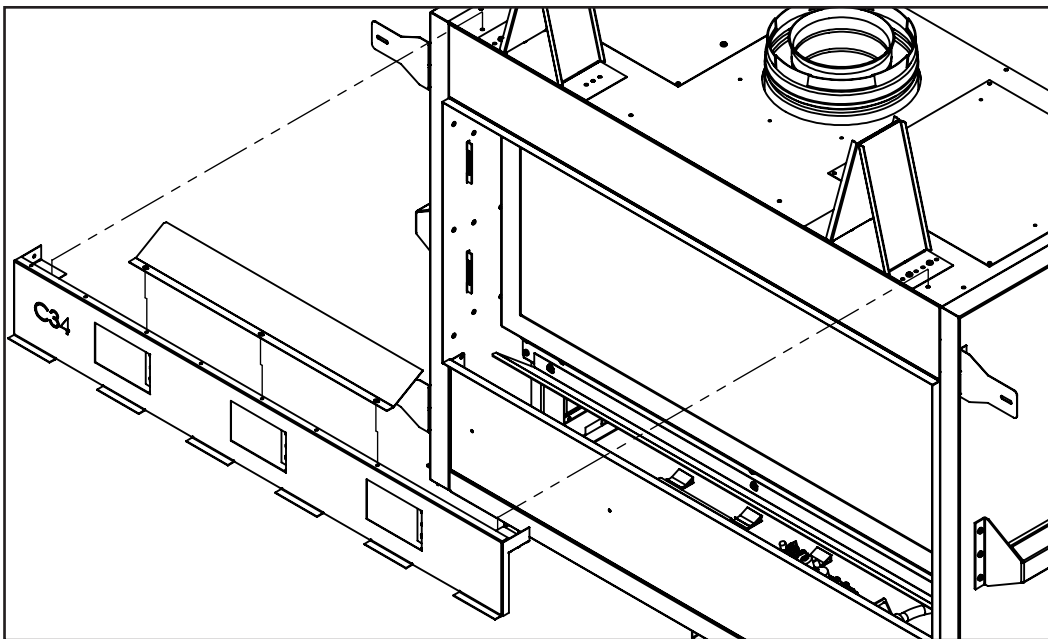

Figure 23. Combustible Panel C34
Step 8: Attach your deflector to your panel configuration as shown below (Figure 23, 24)